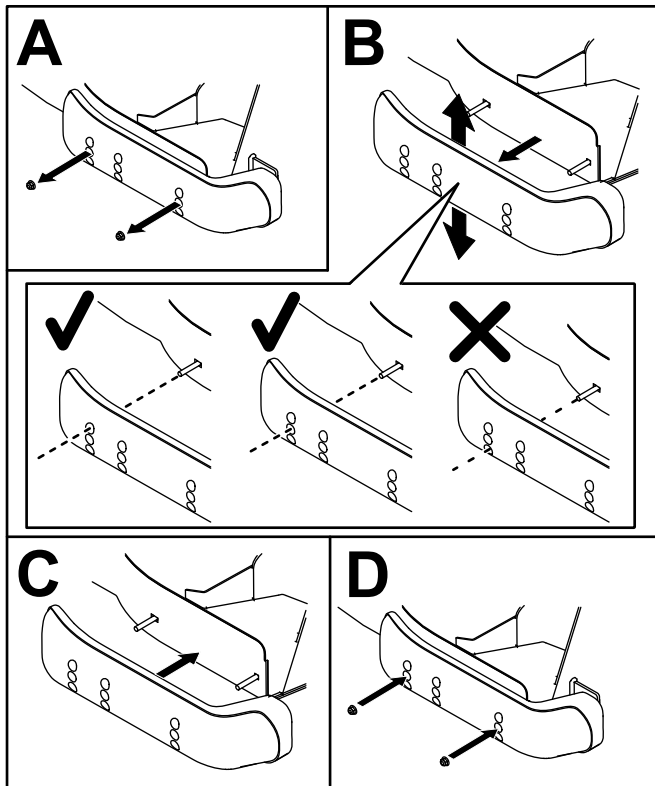

Figure 15
3. Move the skid to the desired position and secure it to the cutting unit with the flange-head bolts and nuts (Figure 15).